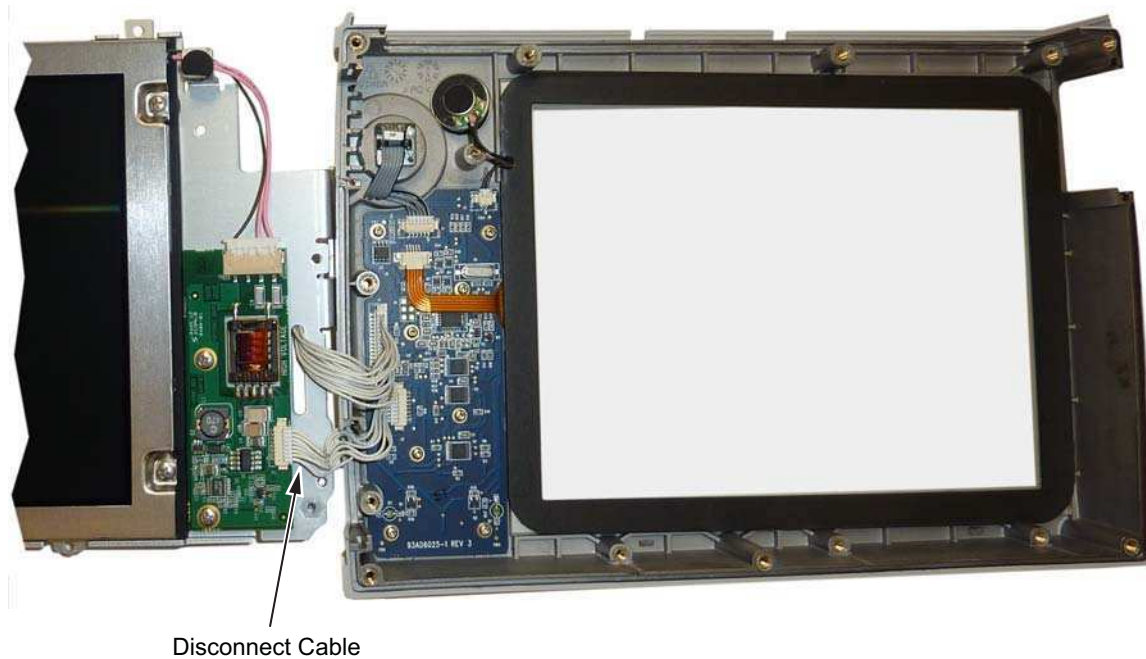

Figure 7-9. Replacing the LCD Assembly
4. Turn the LCD assembly over and disconnect the front half of the case from the LCD Assembly (Figure 7-9).